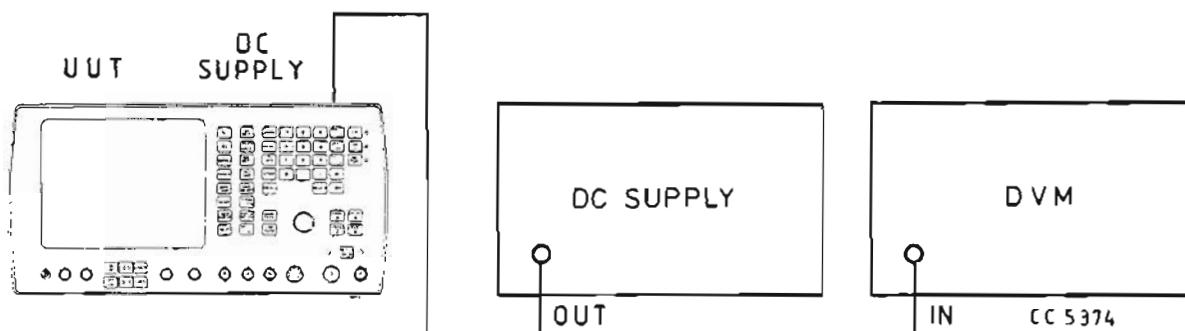

Fig. 14 Test equipment connections for adjusting R46 on ARI
- (1) Disconnect the a.c. mains supply lead from the u.u.t. AC SUPPLY socket.
- (2) Connect the d.v.m. and a d.c. supply capable of supplying 55 W at 16 V to the u.u.t. rear panel DC SUPPLY socket (see Fig. 14).